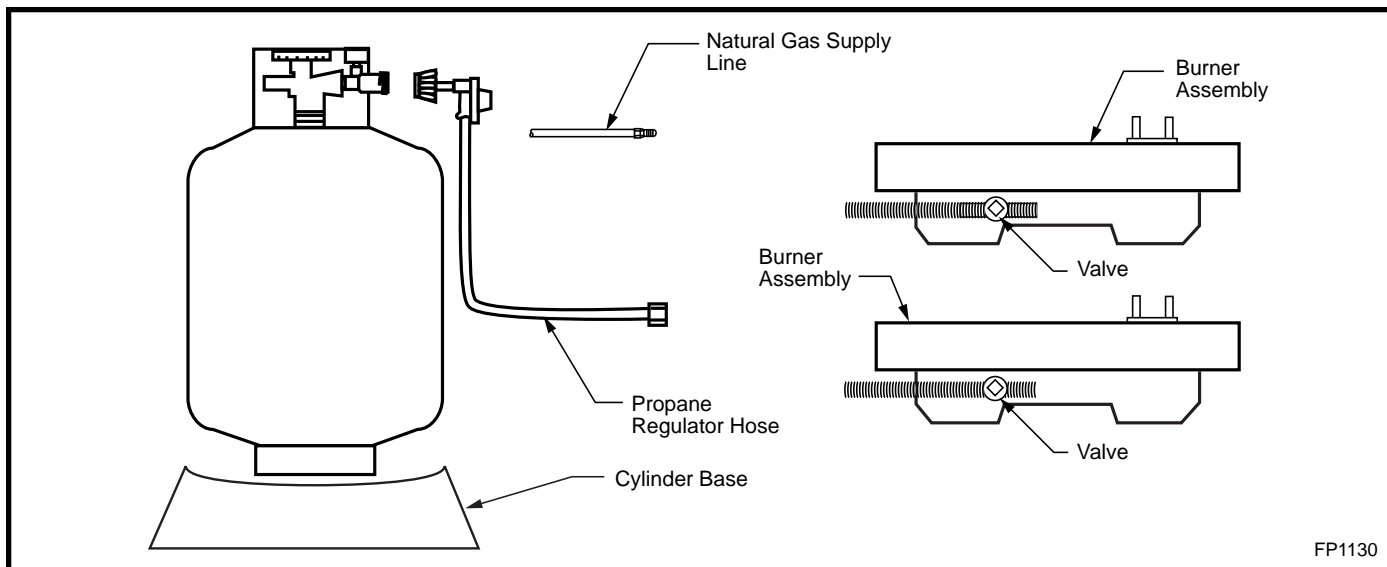

Fig. 3 Gas line connection.
Connect the incoming gas supply line to the on/off gas valve of the appliance. (Fig. 3) Make certain **ALL** gas connections are tight. Test for leaks. Use a 50/50 solution of liquid soap and water to test for leaks at gas fittings and joints. Apply water/soap solution with a brush only - *do not over apply*. **NEVER test with an open flame.**
7. When connecting regulator assembly to the tank valve, hand tighten nut clockwise to a positive stop. **DO NOT** use a wrench to tighten. Use of a wrench may damage quick closing coupling nut and result in a hazardous condition. (Fig. 3)